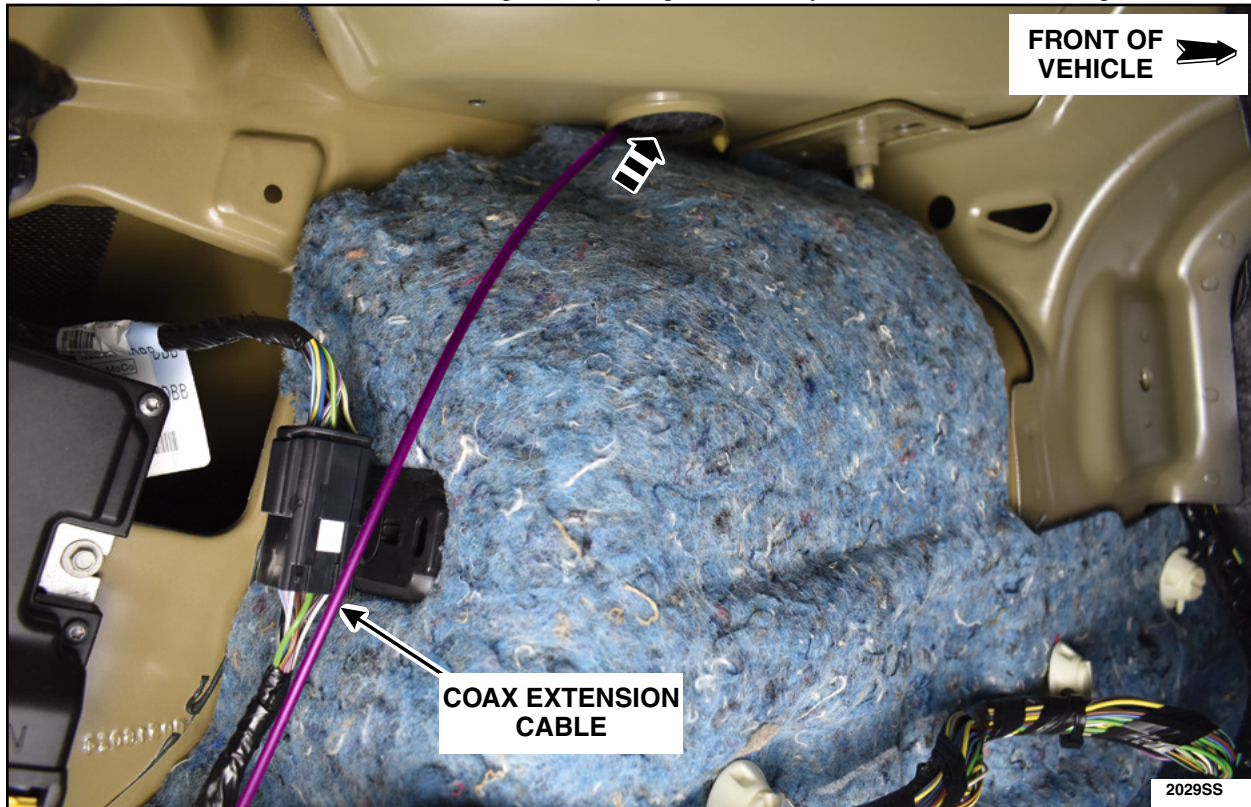

FIGURE 8
9. Route the coaxial extension cable through the opening on the body into the vehicle. See Figure 8.